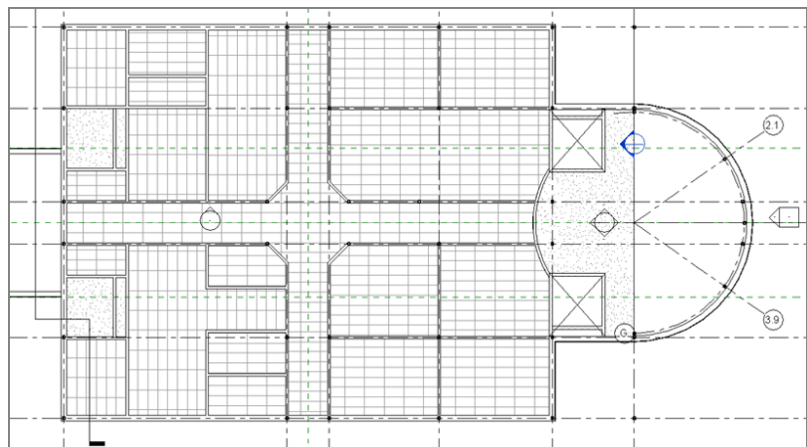

FIGURE 9.5: Adding 2×4 ACT ceilings to the specified rooms
6. Have at it! Add a ceiling to every room in the east wing except the bathrooms, east radial entry, and, of course, the elevator shafts, as shown in Figure 9.5.